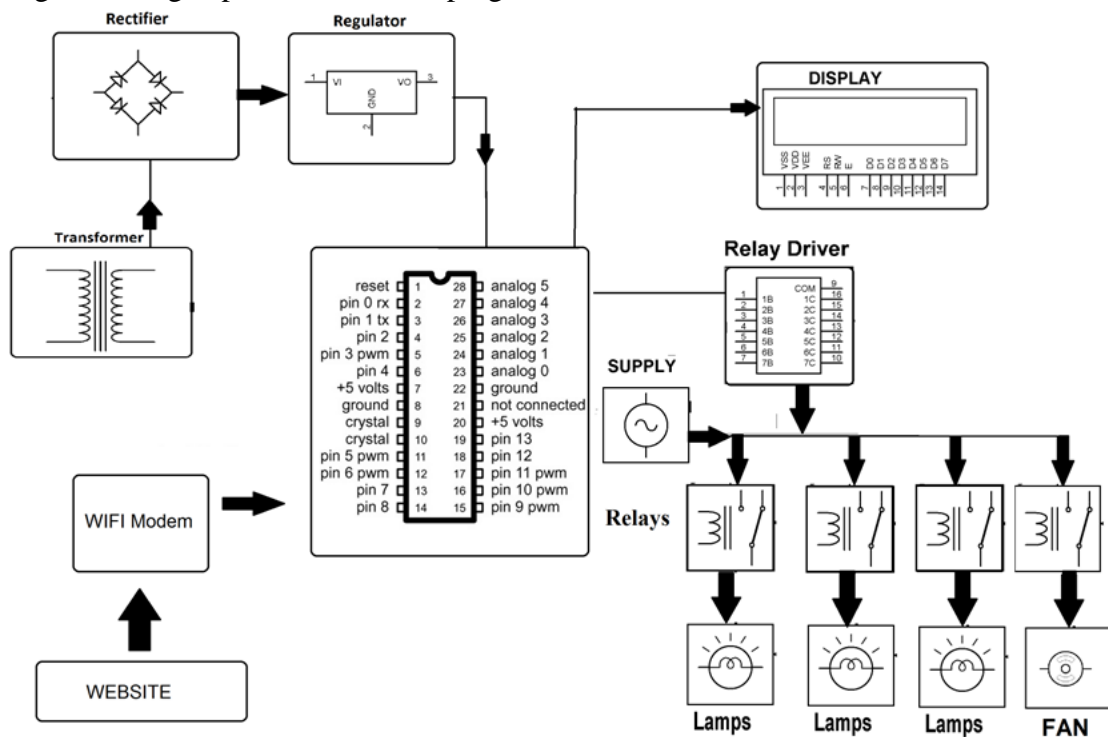

Fig. 2 : Home automation using IoT concepts
**IoT Devices:** These devices include smart appliances, thermostats, lighting systems, security cameras, door locks, entertainment systems, and more. They are equipped with sensors, connectivity, and control capabilities that allow them to interact with each other and with the homeowner as shown in the Fig. 2 [5].